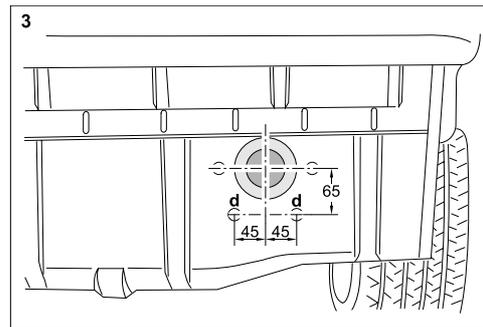

Fig. 3 : Holes in right rear panel and sealing ring
- 6.) Mark necessary holes in the rear panel at " d " in the area beneath the right - hand impact damper opening and drill with 14 mm \varnothing drill (see Fig. 3).
- 7.) Clean rear panel in the area about the right - hand impact damper opening and adhere foam sealing ring about opening; see Fig. 3.
- 8.) Insert stirrups (3) into frame side member from rear and loosely screw together from below with left (4) and right (5) reinforcement bracket together with collar nuts M 10.
- 9.) Insert left (2) and right (6) longitudinal struts also in frame side member and loosely screw to the body from above with hexagon bolts M 10 x 30 and washers 25 x 10,5 x 3.
- 10.) Place towing device (1) onto rear panel from rear and loosely screw to vehicle from the inside with hexagon bolts M 10 x 30 and washers 25 x 10,5 x 3.
- 11.) Align towing device (1) and tighten the screw connections in following sequence :
903 095 650 001	VPE. Retaining parts, including Fig. 3